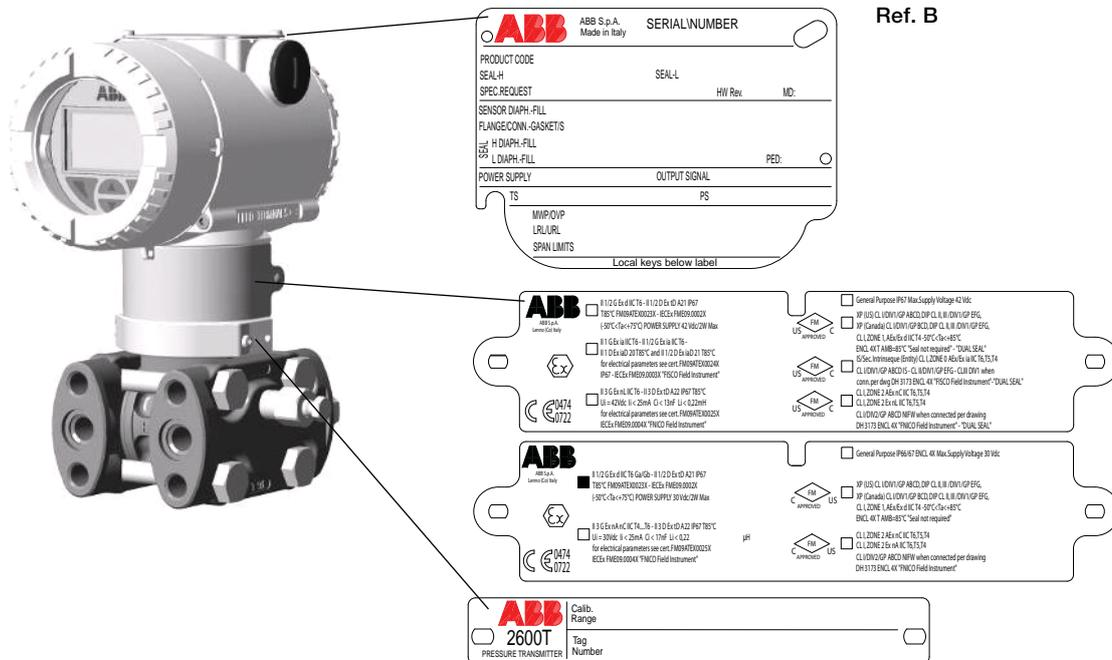

Figure 1: Product identify
The instrument is identified by the data plates shown in Figure 1. The certification plate (ref. A): contains the certification related parameters for use in Hazardous area. The Nameplate (ref.B) provides information concerning the model code, maximum working pressure, range and span limits, power supply, output signal, diaphragms material, fill fluid, range limit, serial number, maximum process working pressure (PS) and temperature (TS).